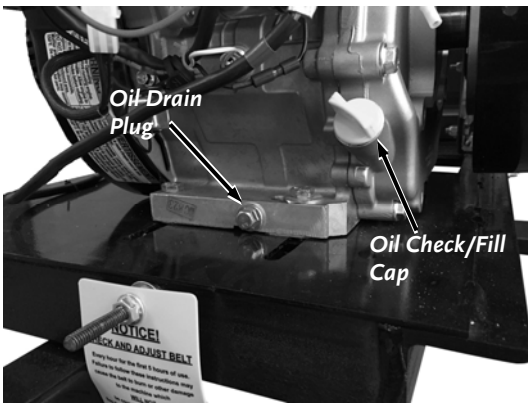

Figure 13
1. Position a suitable oil receptacle under the engine oil Drain Plug and remove the Engine Oil Check/Fill Cap (**Figure 13**).
2. Remove the Oil Drain Plug from the Engine Block with a 12mm Wrench. Allow the used oil to drain completely, and then replace the Oil Drain Plug (**Figure 13**).